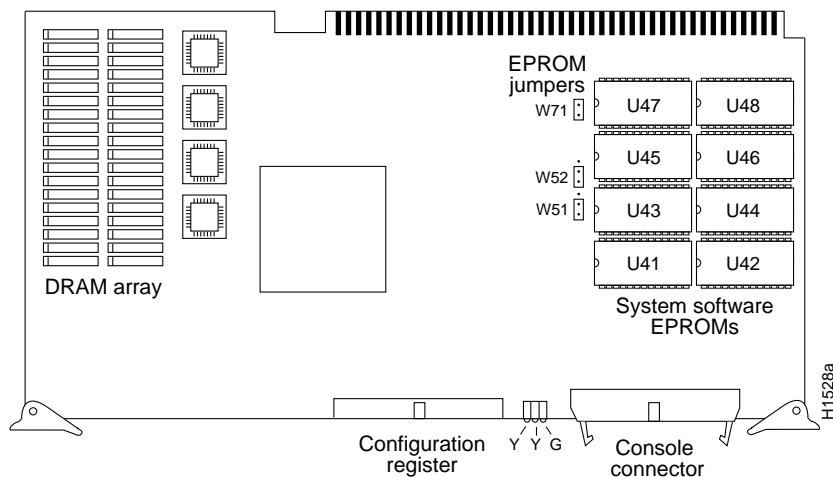

Figure 12 CSC/4 Processor Card—Component-Side View
Figure 6 illustrates the jumper settings to use with each EPROM type by size. The orientation of the jumpers is with the card positioned as shown in Figure 12: component side up with the console cable connector closest to you.
Refer to Figure 12 for placement of the components on the CSC/4 processor card.
- Step 3** Referring to Figure 12, position the CSC/4 card as shown and locate the eight EPROMs in sockets U41 through U48. Note the orientation of the notches on the end of each EPROM to aid in inserting the new EPROMs. Do not rely on the orientation of the labels on the new EPROM for correct positioning.